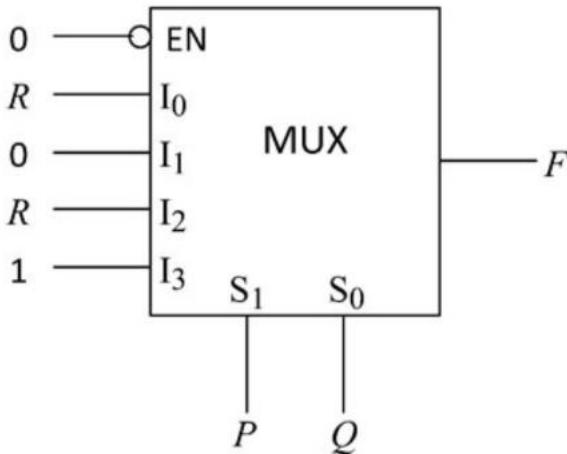

Fig. 4.32
52. Fig. 4.32 below shows a multiplier where S_1 and S_0 are select lines, I_0 to I_3 are the input data lines, EN is the enable line, and $F(P, Q, R)$ is the output. F is (GATE EC 2020)